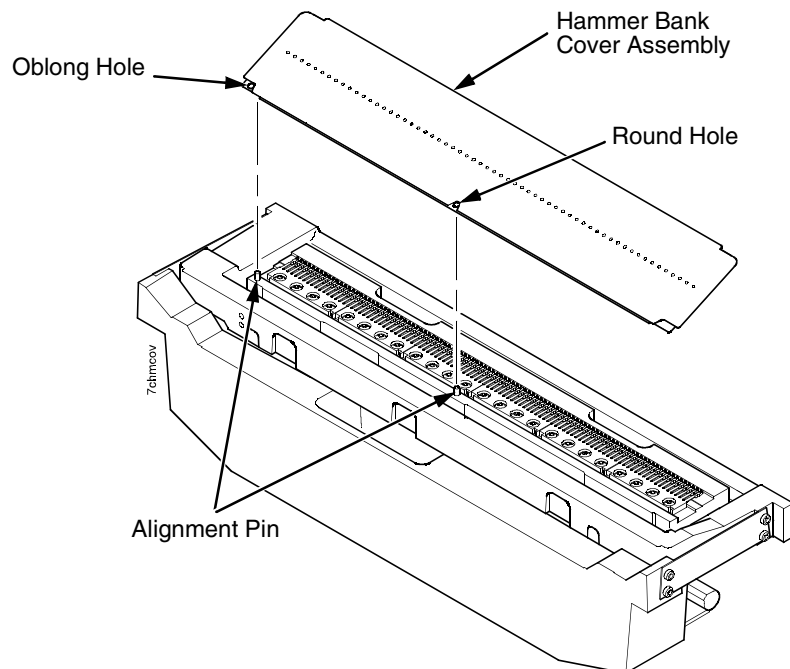

Figure 24. Hammer Bank Cover Assembly
3. Lift the thick plate of the hammer bank cover assembly at one end, and peel the cover away from hammer bank magnets. (See Figure 24.)
1. With the thick plate facing the hammer bank, hold the hammer bank cover assembly at a slight angle and engage the bottom edge on the alignment pins. First engage the center (round) hole, then the left (oblong) hole, to ensure that the cover lies flat on the hammer bank. (See Figure 24.)